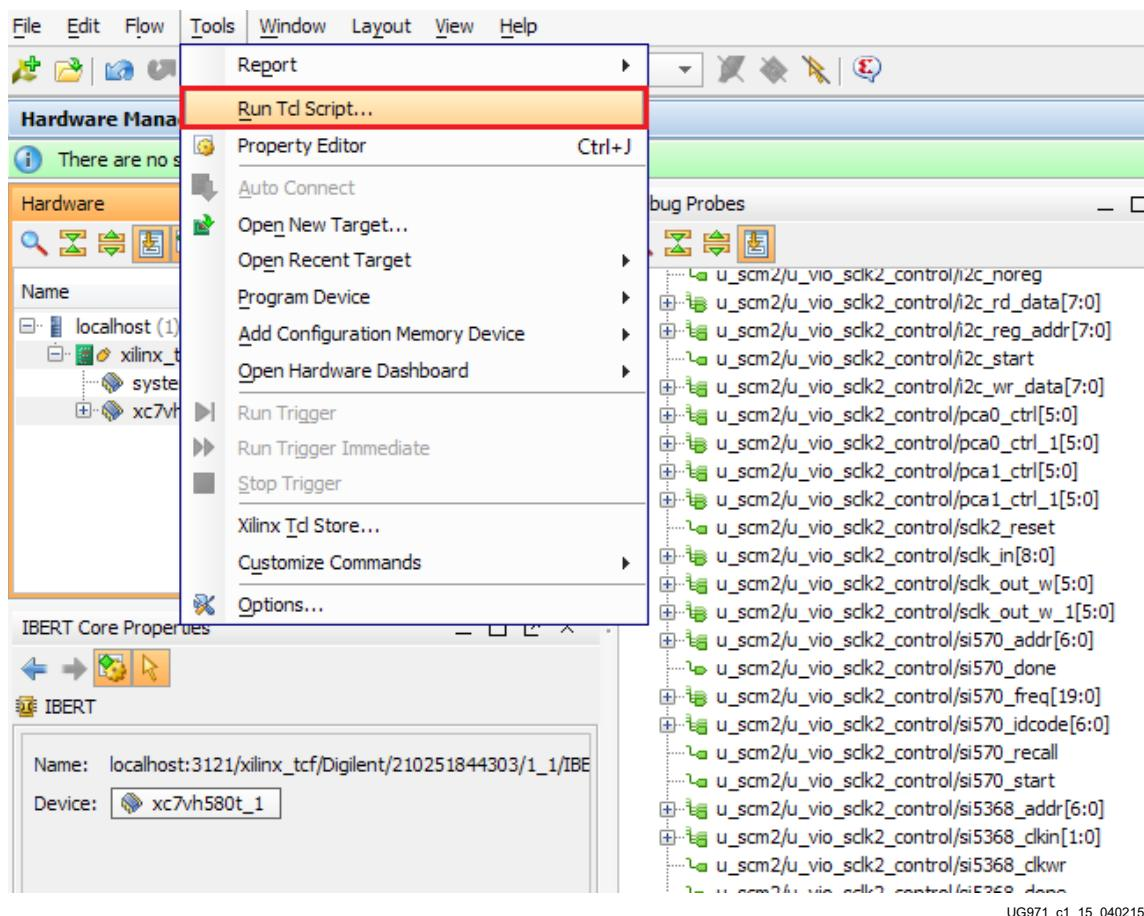

Figure 1-15: Run TCL Script
3. Vivado Design Suite reports that the XC7VH580T is programmed and displays the SuperClock-2 VIO core and the IBERT core. To configure the SuperClock-2 module, click **Tools > Run Tcl Script** (Figure 1-15). In the Run Script window, navigate to the `setup_scm2_325_00.tcl` script in the extracted files and click **OK**.